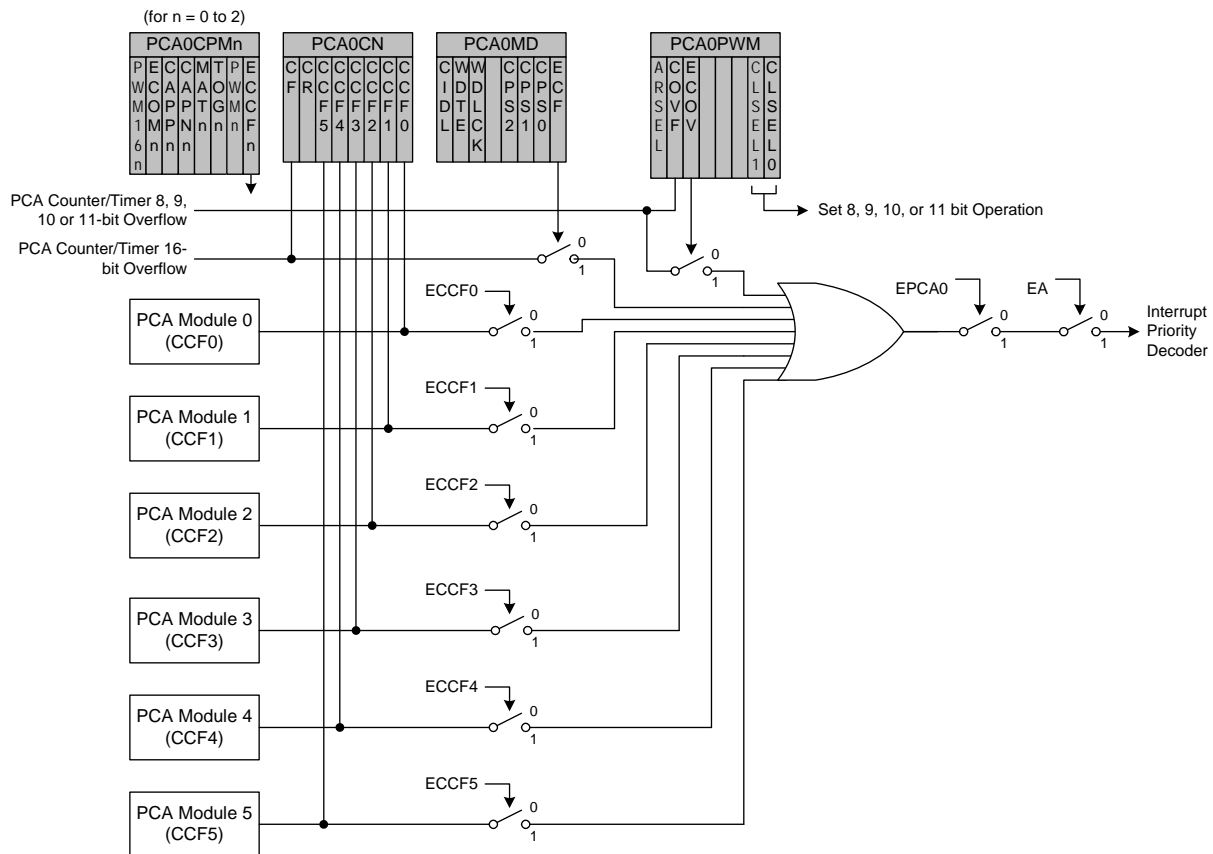

Figure 27.3. PCA Interrupt Block Diagram
Figure 27.3 shows a diagram of the PCA interrupt tree. There are five independent event flags that can be used to generate a PCA0 interrupt. They are as follows: the main PCA counter overflow flag (CF), which is set upon a 16-bit overflow of the PCA0 counter, an intermediate overflow flag (COVF), which can be set on an overflow from the 8th, 9th, 10th, or 11th bit of the PCA0 counter, and the individual flags for each PCA channel (CCF0, CCF1, CCF2, CCF3, CCF4, and CCF5), which are set according to the operation mode of that module. These event flags are always set when the trigger condition occurs. Each of these flags can be individually selected to generate a PCA0 interrupt, using the corresponding interrupt enable flag (ECF for CF, ECOV for COVF, and ECCFn for each CCFn). PCA0 interrupts must be globally enabled before any individual interrupt sources are recognized by the processor. PCA0 interrupts are globally enabled by setting the EA bit and the EPCA0 bit to logic 1.